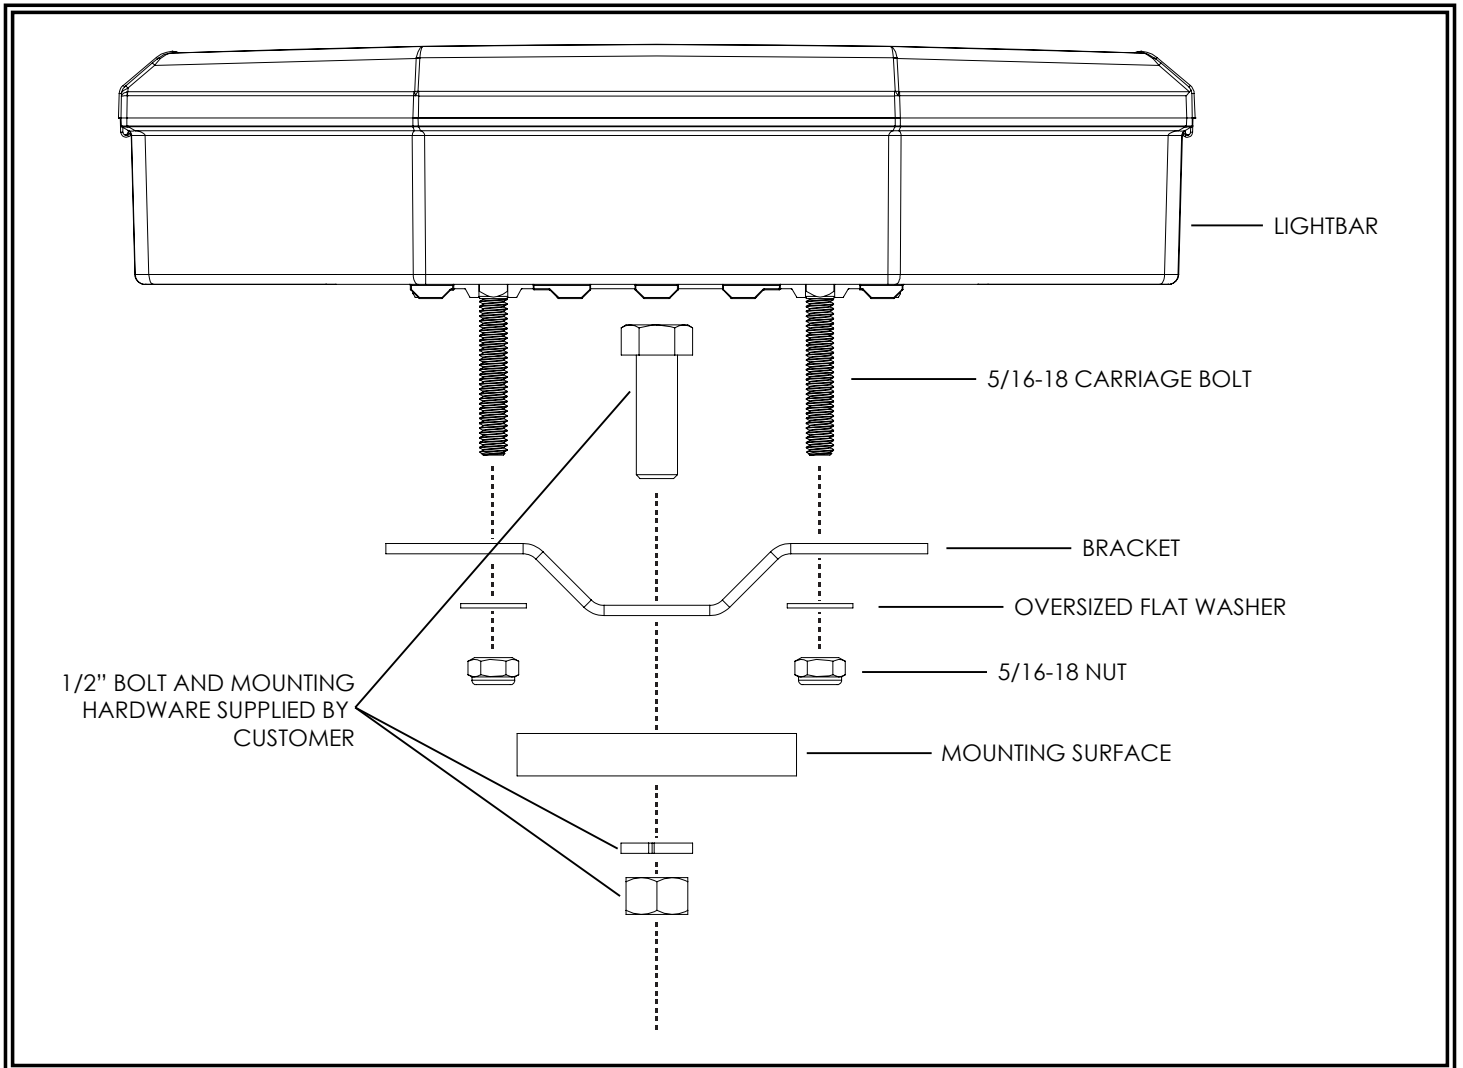

FIGURE 5
1. Insert the four (4) 5/16"-18 carriage bolts in the channels on the under side of the light bar and loosely attach the mounting brackets.
3. Secure the brackets to the lightbar with the supplied washers and nuts as shown in FIGURE 5.